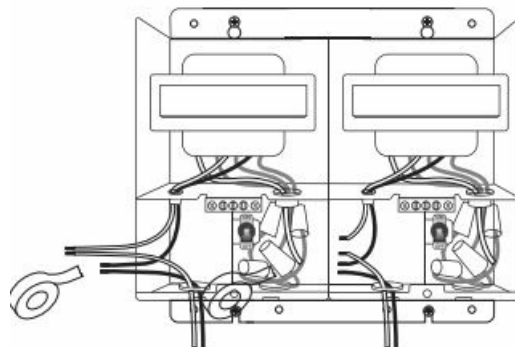

Figure 4
5. Use electrical tape to connect the Black Wire and White Wire of the High Voltage Wiring Compartment with your live and neutral wires separately, then place these connected wires in the High Voltage Wiring Compartment.(Figure 4)